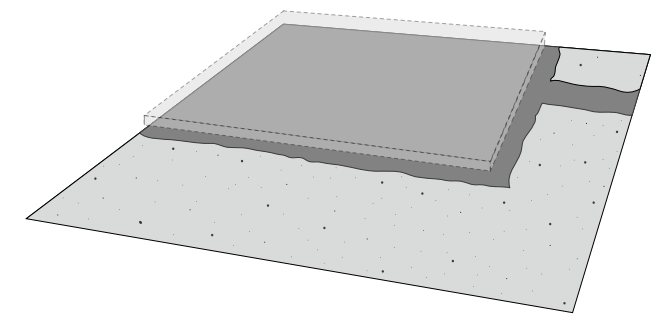

Fig. 14
1. You will need to excavate the screed where the shower tray will be positioned to a depth of at least 30mm (Fig.14). The depth to be excavated is dependent on whether underfloor heating will be used and which method of waterproofing is chosen (see Section 5 before commencing work). It may be easier to remove all the screed in the area of the shower tray and then lay a thin screed using a self-levelling compound.